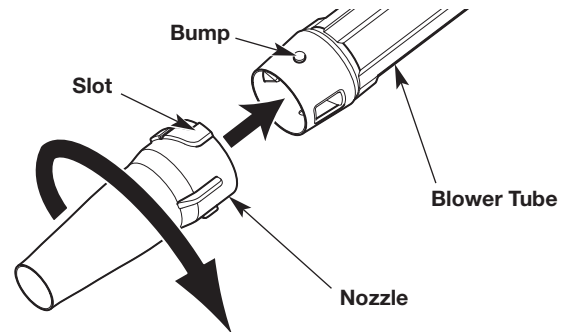
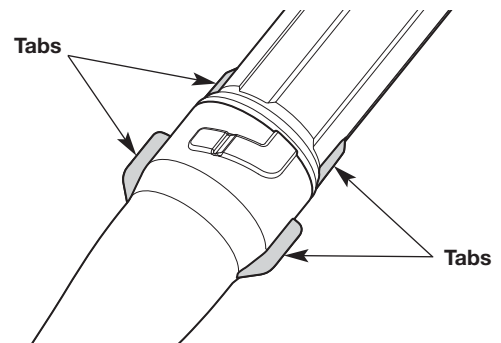

Fig. 2
Fig. 3
1. Align the slots on the nozzle with the bumps on the lower end of the blower tube (Fig. 2).
2. Install the nozzle onto the blower tube (Fig. 2).
3. While holding the blower tube, twist the nozzle clockwise until it locks into place (Fig. 2). The tabs on the blower tube should align with the tabs on the nozzle (Fig. 3).